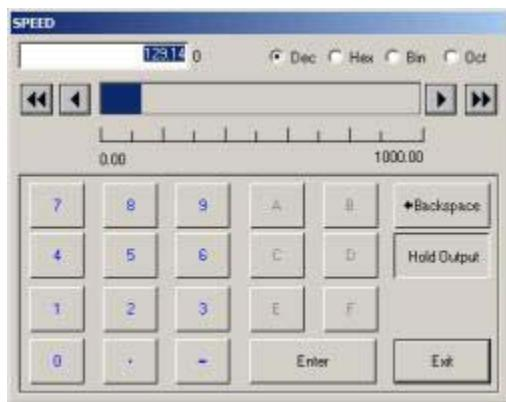

Figure 1.21 - Change dialog Box for ANALOG tag
- a. Select an Analog Tagname from the Point Info Dialog Box the pick the **Change button** (Figure 1.21).